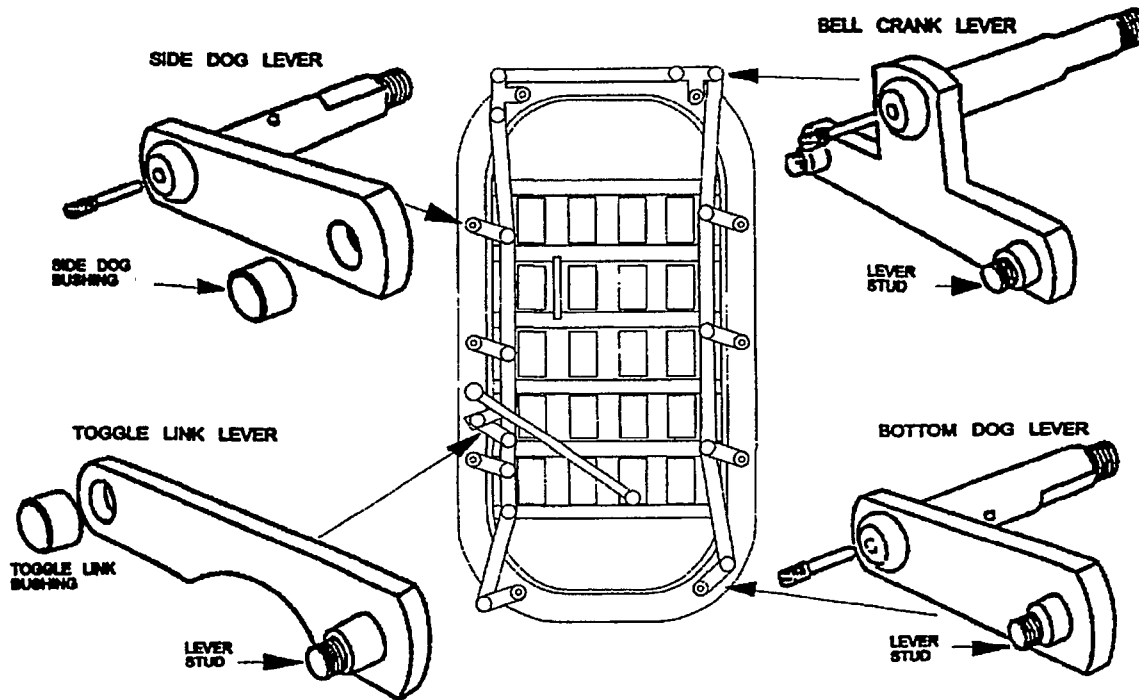
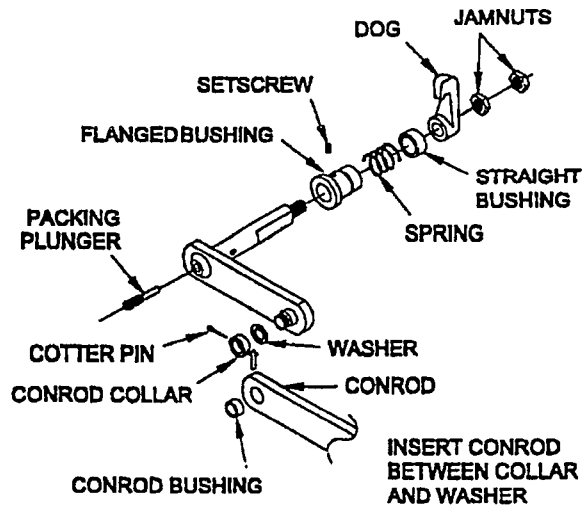
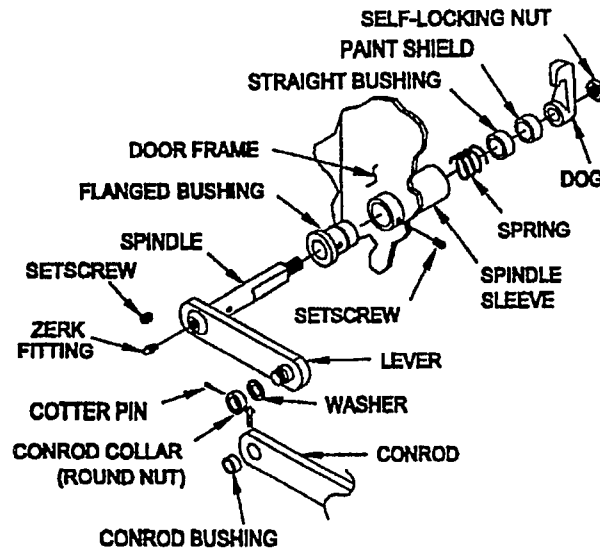

Figure 600-2.56. Quick Acting Door Levers
Figure 600-2.57. Quick-Acting Door Lever Assembly
Figure 600-2.58. Quick-Acting Door Lever Assembly Modified by MACHALT 167-31010 (ECP-526)
- a. Remove the cotter pin, conrod collar (round nut), conrod, and washer from each conrod linkage. See figure 600-2.56, figure 600-2.57, and figure 600-2.58.